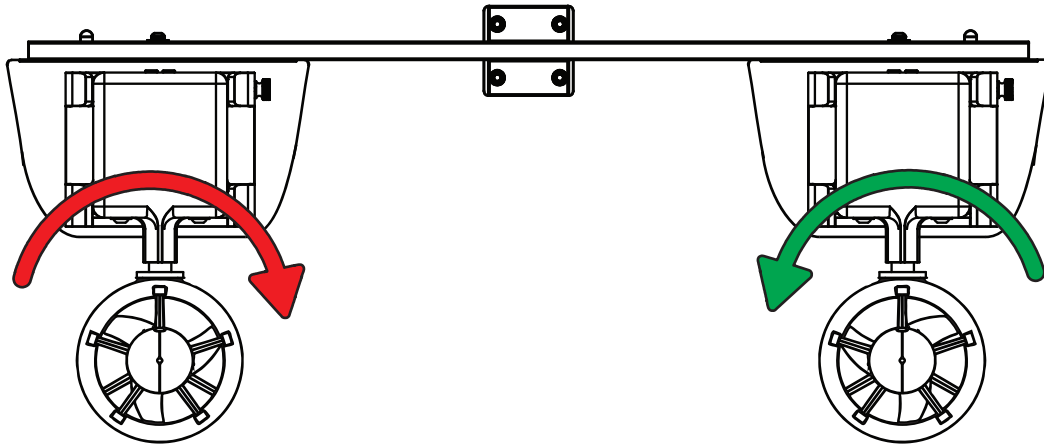

Figure 34: HyDrone™ ASV Servo Prop Rotation
- Motor must rotate clockwise(CW) (Figure 34)
- Motor must rotate counter-clockwise(CCW) (Figure 34)